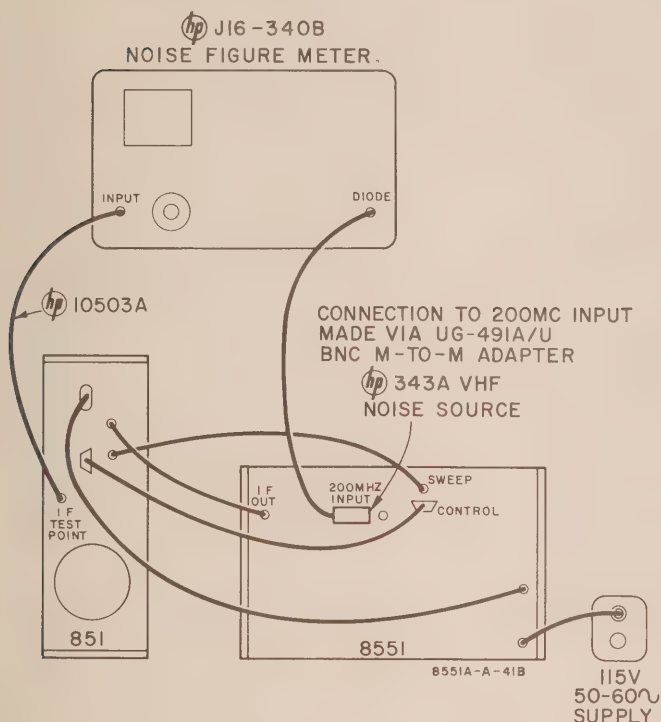

Figure 5-10. Setup, 200-Mc IF Noise Figure Measurement
a. Setup. See Figure 5-10.
- (1) Disconnect external jumper cable from 200 MHZ OUTPUT, and connect 343A Noise Source to 200 MHZ INPUT.
- (2) Connect 8551 to 851, and noise figure meter INPUT to IF TEST POINT on 851 rear panel.
- (3) Set 8551 LINE to ON and check that SIGNAL IDENTIFIER is at OFF.
b. Procedure. Instructions given assume use of equipments shown in Figure 5-10. On J16-340B Noise Figure Meter:
- (1) Set